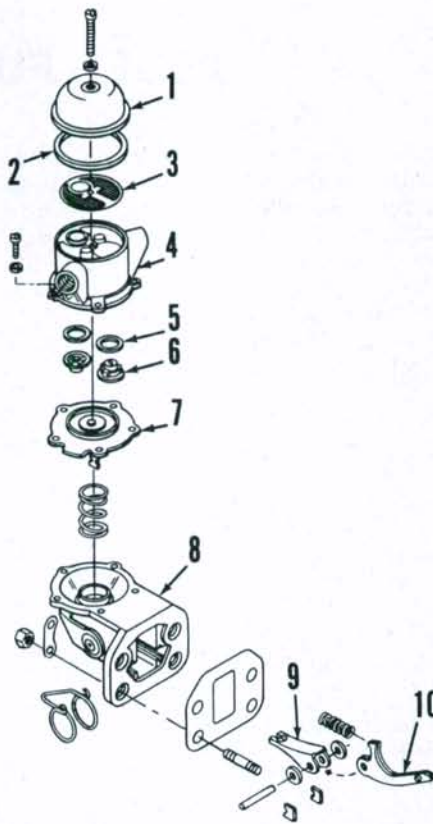
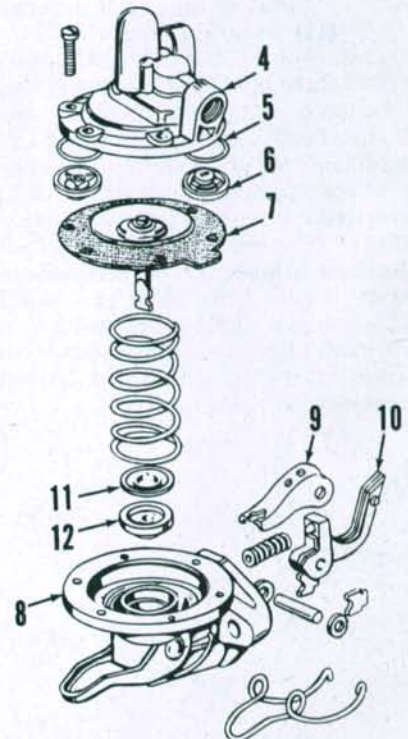

Fig. 122—Exploded view of fuel lift pump used on all diesel models except Model MF255.
Fig. 123—Exploded view of fuel lift pump used on MF255 diesel models. Refer to Fig. 122 for legend except for seal (11) and retainer (12).
**116.** The fuel lift pump shown in Fig. 123 is type used on MF255 diesel models. All other diesel models are equipped with fuel lift pump shown in Fig. 122. All of the pumps are driven by an eccentric on the engine camshaft. Output delivery pressure should be 35-55 kPa (5-8 psi) for Model MF255; 42-69 kPa (6-10 psi) for all other models.
separately on pump shown in Fig. 122. A repair kit containing the diaphragm and other related components is available for all pumps.